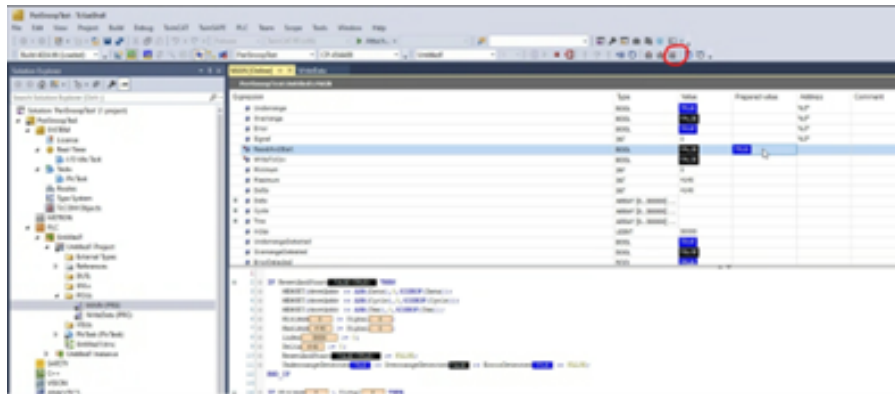
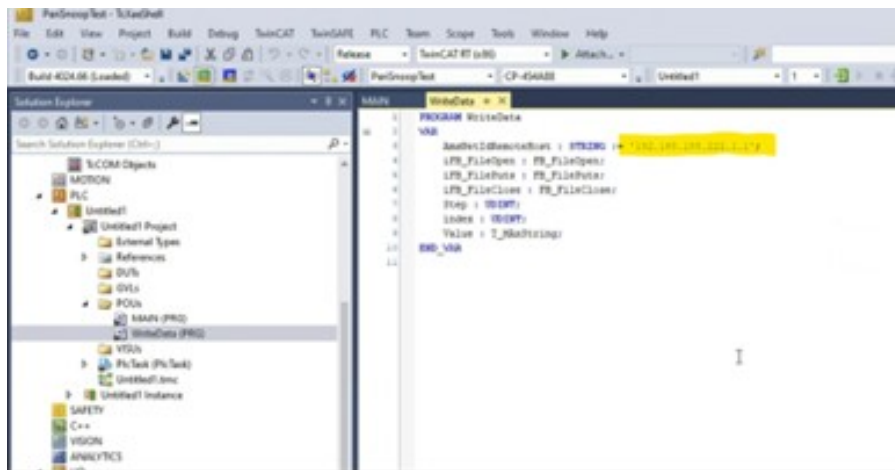
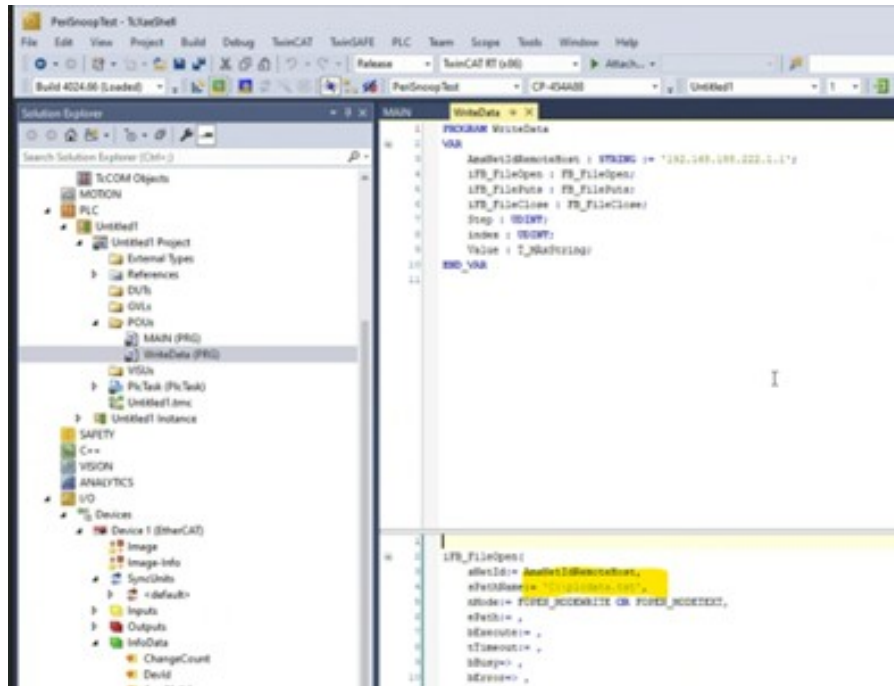

Figure 16: Record the measurement series
Figure 17: Saving the measurement series - AMS Net ID of the PC
Figure 18: Saving the measurement series - File storage location on the PC
button as seen in Figure 16.
- To save the measurement to a file, set the Boolean variable "WriteToCsv" to TRUE by clicking on the "Prepared value" column, which is one line below the "ResetandStart" variable as seen in Figure 16. The data is not saved to the controller, but instead to the development PC connected. Therefore, the AMS Net ID of the development PC must be stored in the controller's program as seen in Figure 17 The path and file name of the destination on the development PC can be adjusted at the function block iFB_FileOpen as seen in Figure 18